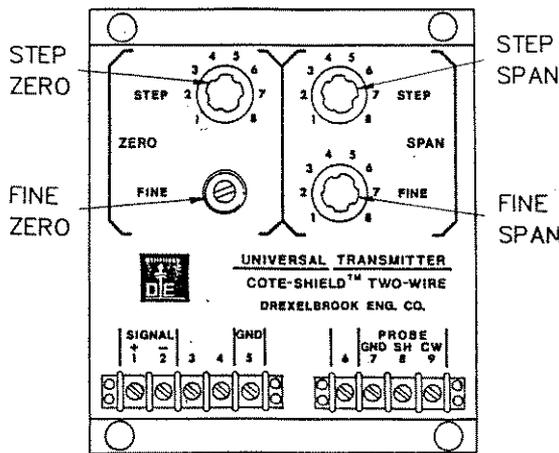

Figure 5-1
There are four main calibration controls on the chassis front panel. They are Step Zero, Fine Zero, Step Span, and Fine Span. See Figure 5-1.
- A. Set the Fine Span control to the extreme clockwise (CW) position. Do not force. See Figure 5-1.
- B. Set the Fine Span control on the electronic unit to the extreme clockwise (CW) position. Do not force. See Figure 5-1.